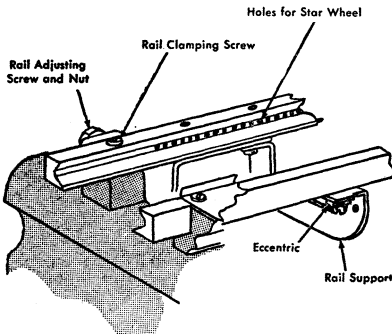

Figure 9. Rail Adjustments
6. Center the carriage and adjust the rail brace eccentrics to remove all play from the carriage and yet permit perfect freedom of movement (Figure 9).